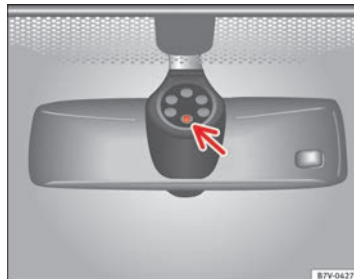

Fig. 69 Rain sensor sensitive surface.
Possible causes of faults and mistaken readings *on the sensitive surface* ⇒ fig. 69 of the rain sensor include:
- Clean the sensitive surface of the rain sensor regularly and check the blades for damage → fig. 69 (arrow).